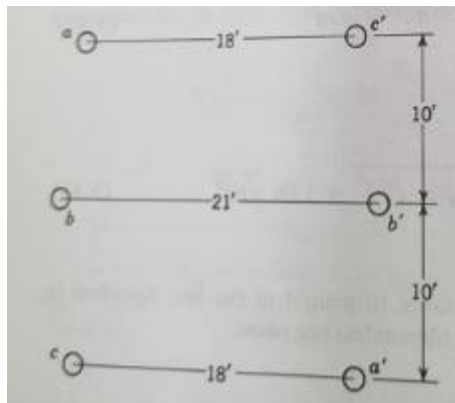

Figure 7: Typical Arrangement of the Conductors
- When the number of circuits is two for tower type-3, typical arrangement of the conductors can be seen in Figure 7 [1].